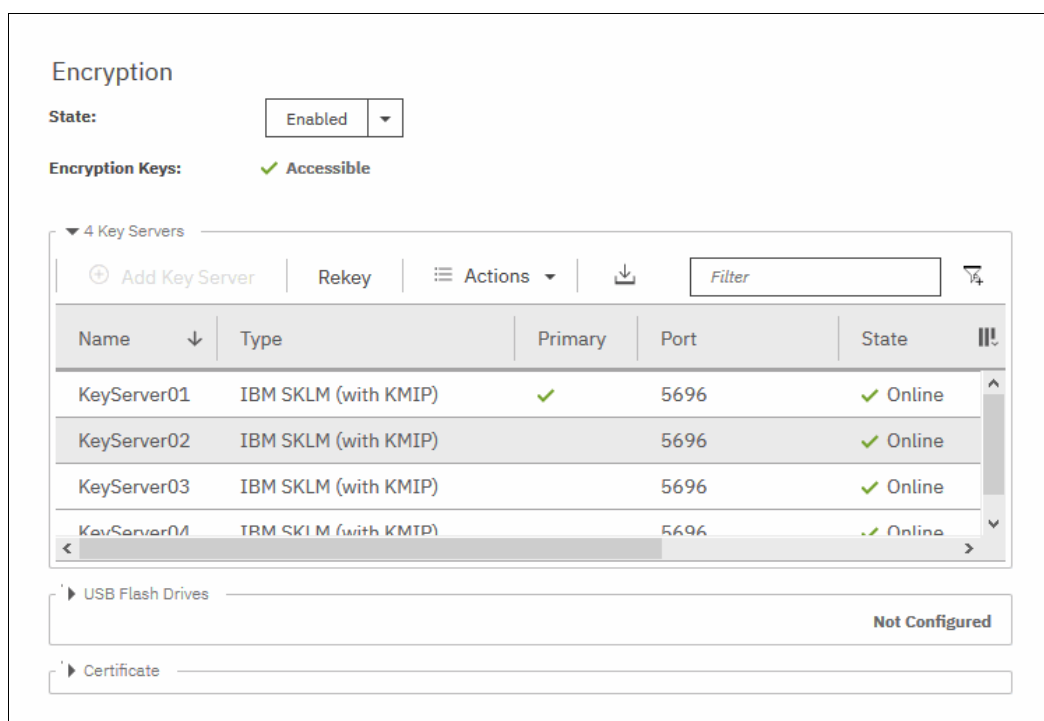

Figure 12-36 Encryption enabled with only SGKLM servers as encryption key providers
12. Confirm that encryption is enabled in **Settings** → **Security** → **Encryption**, as shown in Figure 12-36. The **Online** state indicates which SGKLM servers are detected as available by the system.